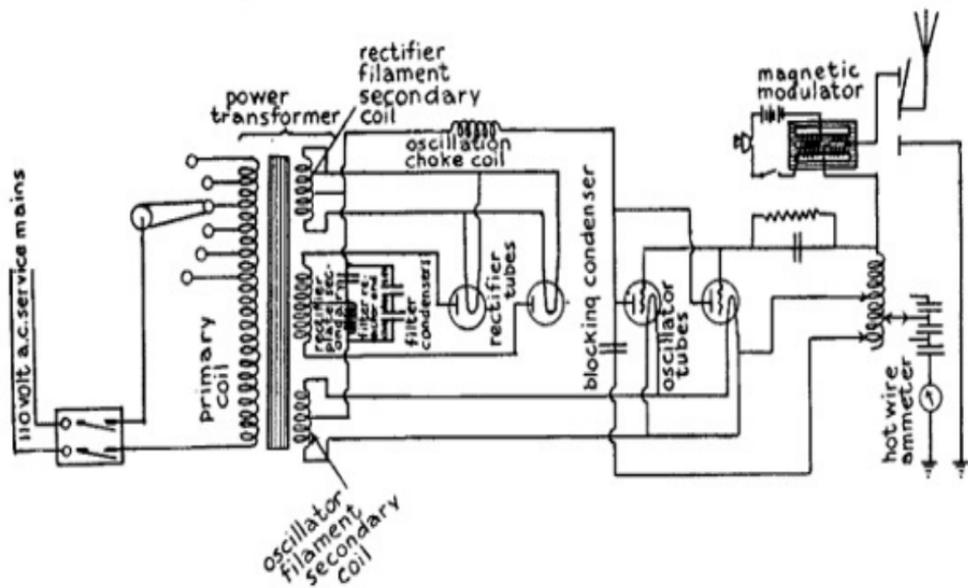

Fig. 93.—100 to 200 Mile Wireless Telephone Transmitter.
*Connecting Up the Apparatus.*--The wiring diagram in *Fig. 93* shows how the various pieces of apparatus for this telephone transmitter are connected up. You will observe: (1) that the terminals of the power transformer secondary coil which develops 10 volts are connected to the filaments of the oscillator tubes; (2) that the terminals of the other secondary coil which develops 10 volts are connected with the filaments of the rectifier tubes; (3) that the terminals of the third secondary coil which develops 550 volts are connected with the plates of the rectifier tubes; (4) that the pair of filter condensers are connected in parallel and these are connected to the mid-taps of the two filament secondary coils; (5) that the reactance coil and the third filter condenser are connected together in series and these are shunted across the filter condensers, which are in parallel; and, finally, (6) a lead connects the mid-tap of the 550-volt secondary coil of the power transformer with the connection between the reactor and the third filter condenser.
*A 100 to 200 Mile Wireless Telephone Transmitting Set--With 110 Volt Alternating Current.--*This telephone transmitter is built up of exactly the same pieces of apparatus and connected up in precisely the same way as the one just described and shown in *Fig. 93*.
*Apparatus Required.--*The only differences between this and the preceding transmitter are: (1) the *magnetic modulator*, if you use one, should have an output of 3-1/2 to 5 amperes; (2) you will need two 50 watt oscillator tubes with sockets; (3) two 150 watt rectifier tubes with sockets; (4) an aerial ammeter that reads to 5 amperes; (5) three 1 mfd. filter condensers in parallel; (6) two filter condensers of 1 mfd. capacitance that will stand 1750 volts; and (6) a 300
The apparatus is wired up as shown in *Fig. 93*.
*The Operation of Microphone Modulators--The Induction Coil.*--This device is really a miniature transformer, see *A* in *Fig. 86*, and its purpose is to change the 6 volt direct current that flows through the microphone into 100 volts alternating current; in turn, this is impressed on the oscillations that are surging in either (1) the grid circuit as shown at *A* in *Fig. 89*, and in *Fig. 90*, (2) the aerial wire system, as shown at *B* in *Fig. 89* and *Fig. 93*. When the current from the battery flows through the primary coil it magnetizes the soft iron core and as the microphone varies the strength of the current the high voltage alternating currents set up in the secondary coil of the induction coil are likewise varied, when they are impressed upon and modulate the oscillating currents.
*The Magnetic Modulator.*--This piece of apparatus is also called a *magnetic amplifier*. The iron core is formed of very thin plates, or *laminations* as they are called, and this permits high-frequency oscillations to surge in a coil wound on it. In this transformer, see *A* in *Fig. 88*, the current flowing through the microphone varies the magnetic permeability of the soft iron core by the magnetic saturation of the latter. Since the microphone current is absolutely distinct from the oscillating currents surging through the coil of the transformer a very small direct current flowing through a coil on the latter will vary or modulate very large oscillating currents surging through the former. It is shown connected in the aerial wire system at *A* in *Fig. 88*, and in *Fig. 93*.
in *Fig. 93*. When this is done the plates will be positively charged alternately with every reversal of the current in which case there will be no break in the continuity of the oscillations set up and therefore in the waves that are sent out.